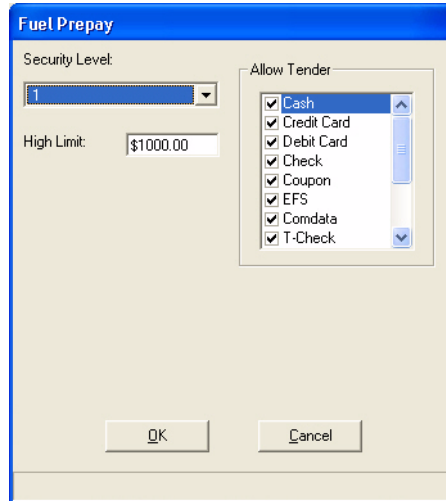

Figure 12-2 Fuel Prepay Window
Use Fuel Prepay programming to set up security levels, a high amount limit, and allowable tender types for fuel prepays. Select **Fuel Prepay** to display the window in Figure 12-2 below.
- **Allow Tender** - Allow tender determines which tender types the system will accept. Check the types of allowable tender in the box next to the tender type. For example, the Fuel Prepay programming window in Figure 12-2 above shows all of the allowable tender types that can be used for a fuel prepay.